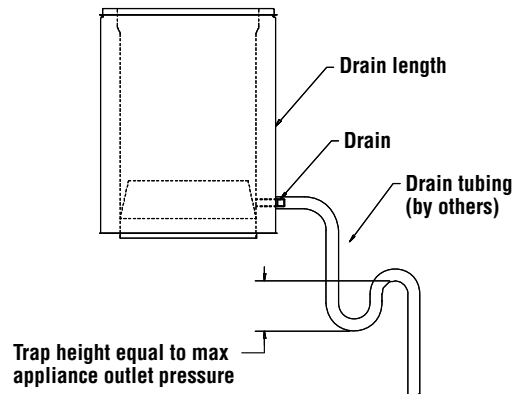

Figure 49 - Drain length
3. The drain tubing should include a water trap of a height at least equal to the maximum expected operating pressure at the appliance outlet to avoid allowing flue gases to vent through the drain. See Figure 49.